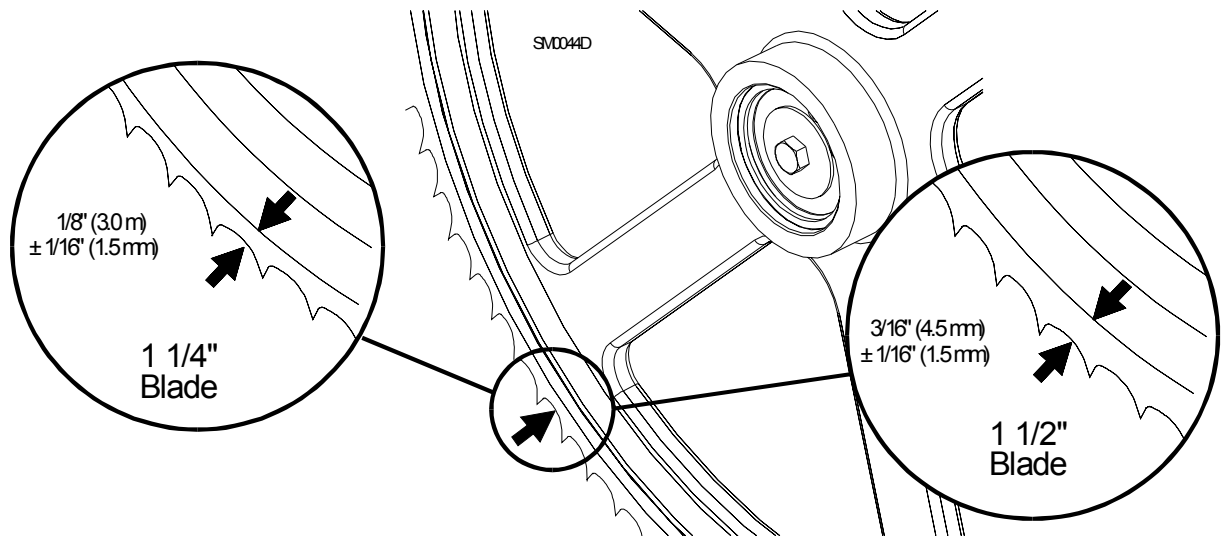

FIG. 5-3
**See Figure 5-3.** The blade wheels should be adjusted so that the gullet of 1 1/4" blades rides 1/8" (3mm) out from the front edge of the wheels ( $\pm 1/32$  [.75 mm]). The gullet of 1 1/2" blades should ride 3/16" (4.5 mm) from the front edge of the wheels ( $\pm 1/32$  [.75 mm]). Do not let the teeth ride on the belt.